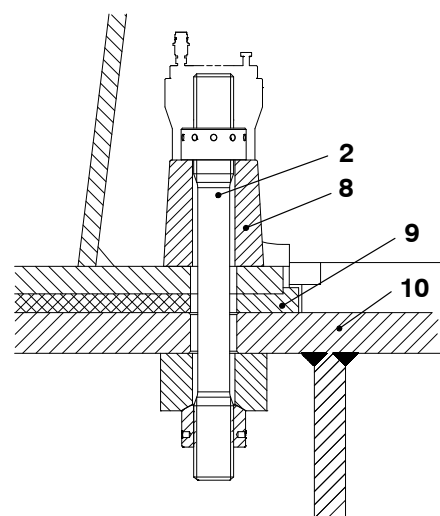

Fig. 2
The remaining area is attached with the foundation bolts (2, Fig.2) and the short bush (8).